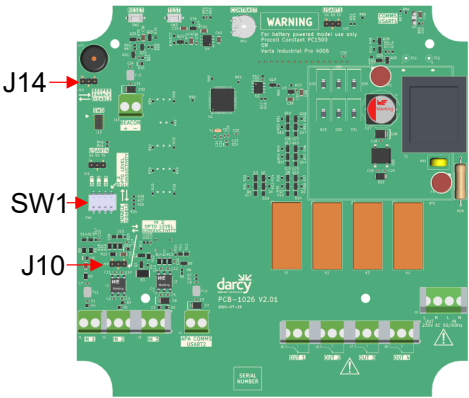

Figure 5: Jumper Link and DIP Switch Settings
7. Ensure the jumper link J10 and SW1, DIP switch 4 are set according to the alarm configuration supplied. See Table 2 and Figure 5.
8. Ensure any unused probe inputs are disabled so they don't cause an alarm. See Figure 5.
9. Install the cells in the battery holder, observing correct polarity as marked inside the battery holder. Only use Procell Constant PC1500 or Varta Industrial Pro 4006 LR06 (AA) primary cells.
Refer to Figure 5 for DIP switch settings to enable/disable probes that are in use.